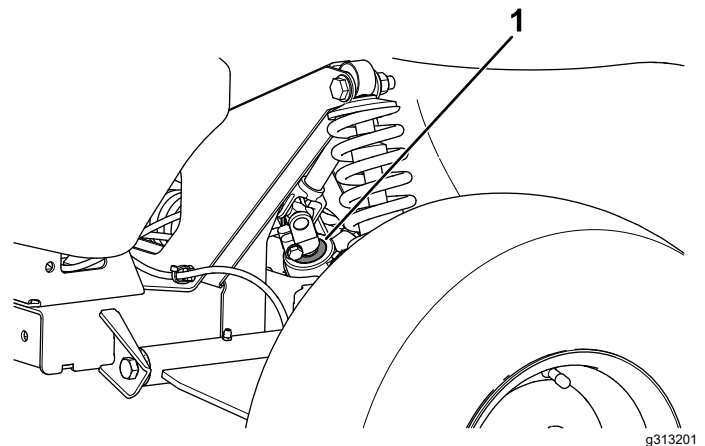

Figure 57
- **Important:** Inspect the condition and security of the pinion-shaft seal (Figure 57).